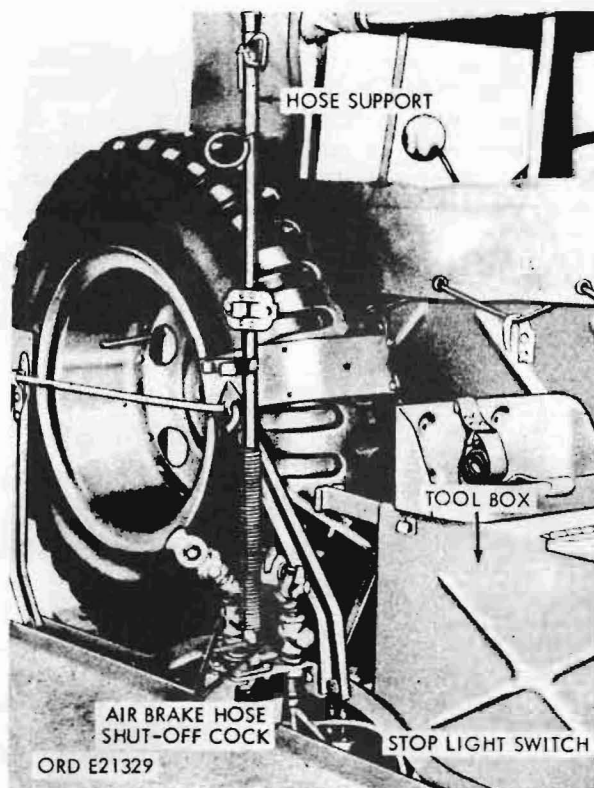

Figure 60. Air brake hose coupling shutoff cocks
- (1) Airbrake hose coupling shutoff cocks (fig. 60). The airbrake hose coupling shutoff cocks, located at the base of the airbrake hose support, are turned to supply air to the service and emergency airbrake systems on the semitrailer.